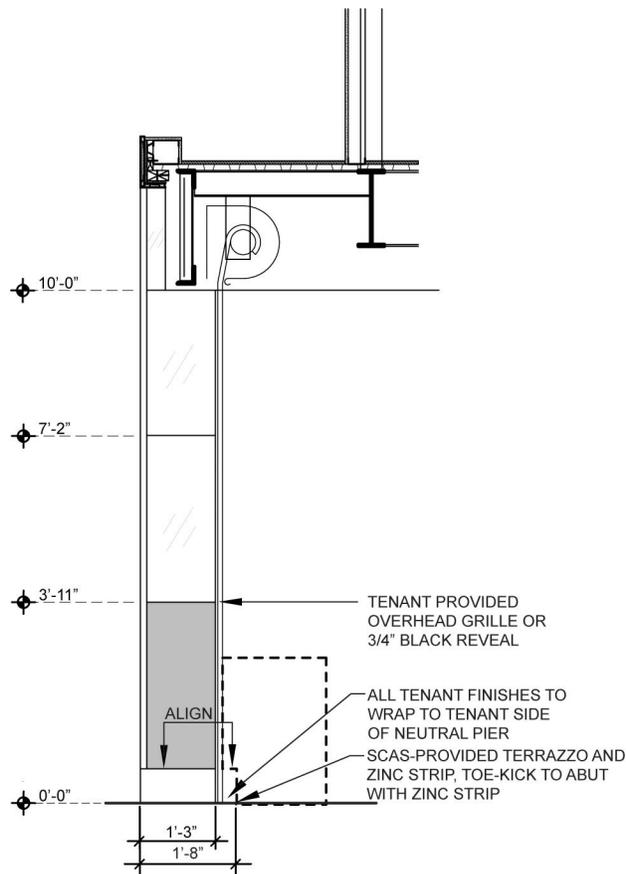

Figure 3.5A Section at Take-Away Counter and Neutral Pier
8. Tenants' take-away counter toe-kick shall abut with the SCDOA-provided zinc strip. All finishes on the Tenant's side of the terminal's neutral pier finishes shall coordinate with the Tenant's counter finishes and be separated by a 3/4" black aluminum reveal. *Reference Figure 3.5A.*